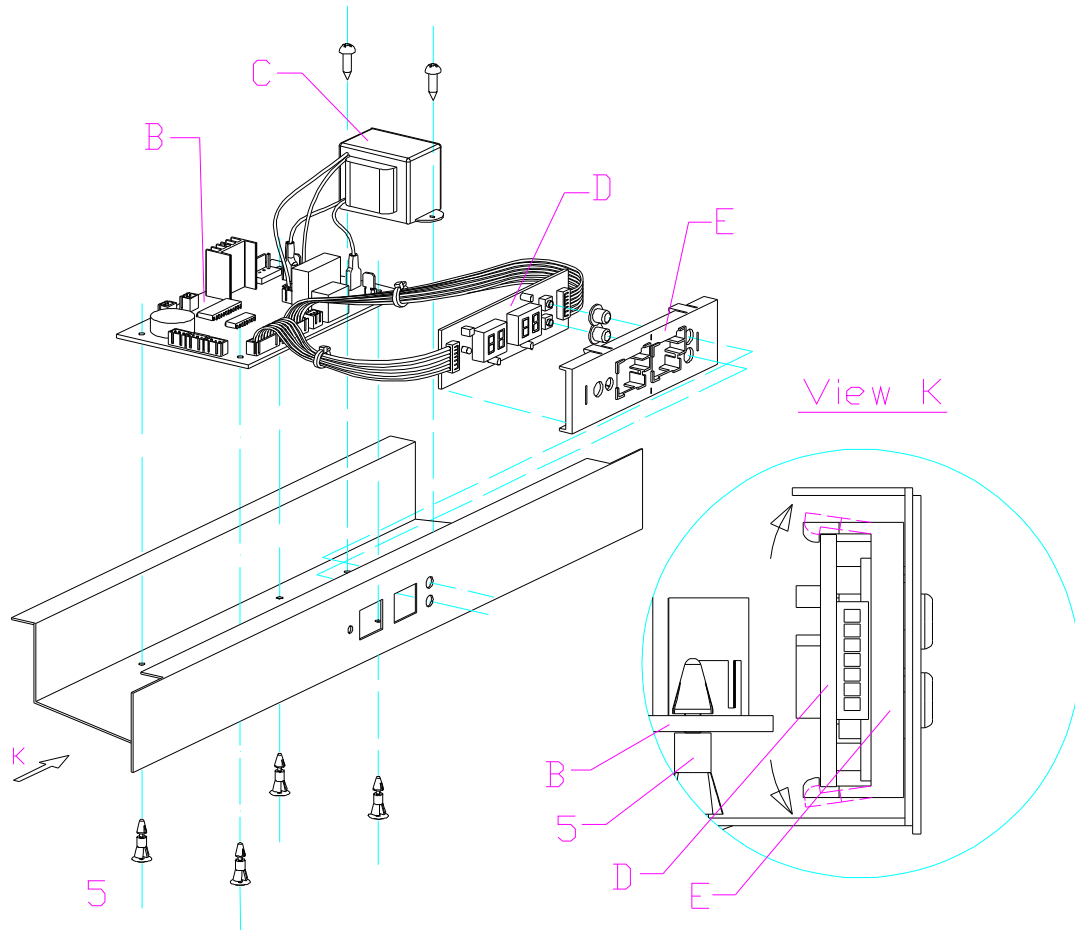
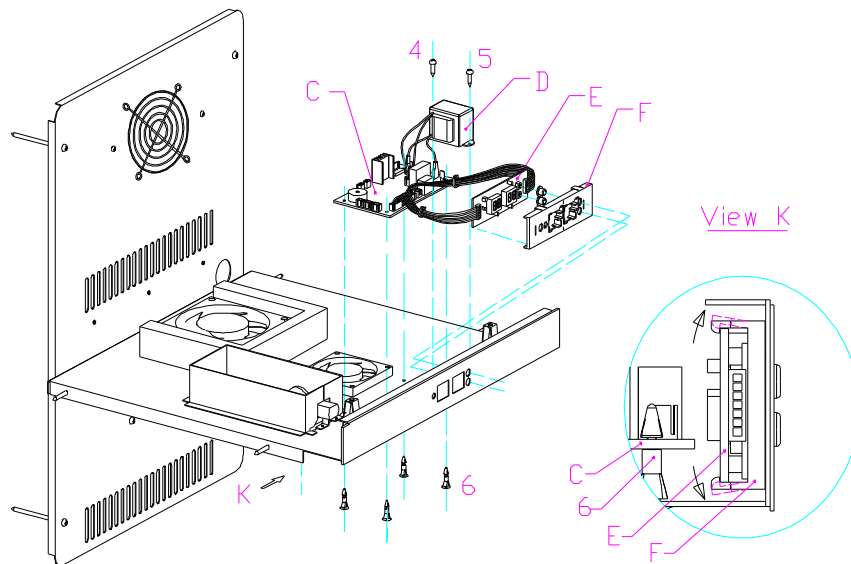

Fig.32
Fig.33
This malfunction is caused by the display panel's default, replace with the same model's display panel. (Fig.32 & Fig.33)
- b. Unplug all the connectors from the control panel, and press the 4 studs (5) one by one, and up draw the control panel, and take off the PCB board (B) . Replace it with the same model's PCB board; (Fig.32)
- c. Remove the the screw of the two transformer and take off the transformer (C) for replacement(Fig.32).
Pull the four 4 display cover fasteners on display board cover (E) as per arrowhead direction, and then remove the display board (D) and its two connectors from both sides. Replace the display board. See (Fig.32)
- b. Unplug all the connector, press the 4 studs ( 6 ) one by one. Updraw the PCB board, and draw off the PCB board(C), , replace it with the same model's PCB board. ( Fig.33 )
- c. Remove two fixing screw of the transformer, take off the tranformer ( D ) for replacement. ( Fig.33 )
Pull the four 4 fasteners of display board cover (F) as per arrowhead direction, and then remove the display board (E) and its two connectors from both sides. Replace the display board. See (Fig.33)